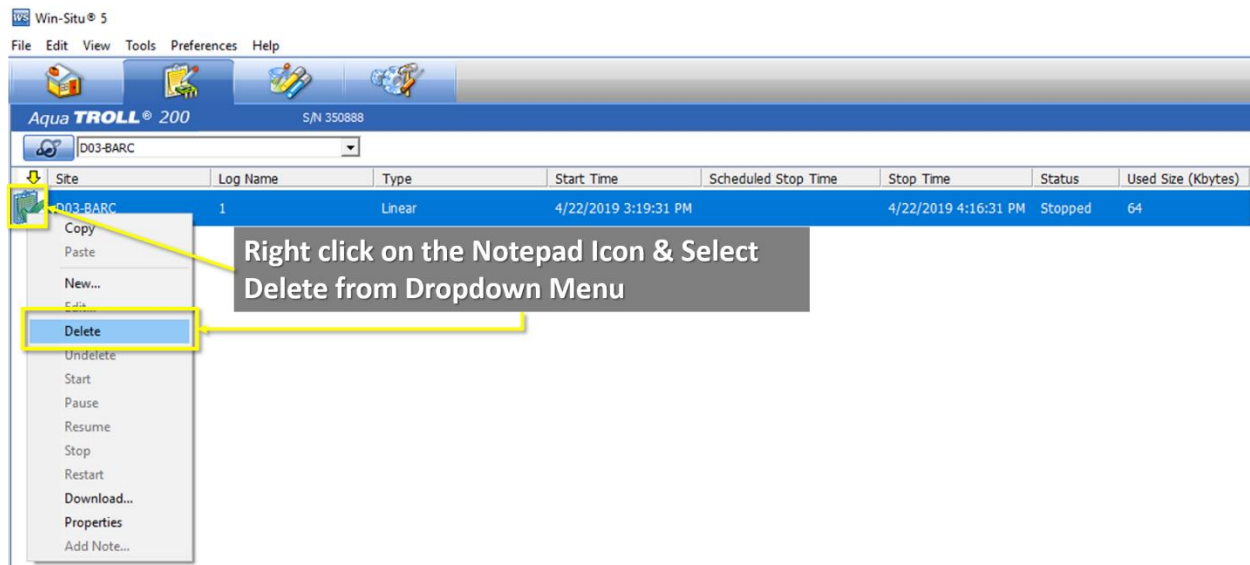

Figure 33. Right Click on the Notepad Icon of the Stopped Log File and Select "Delete"
1. Right click on the notepad icon of the stopped file and select **"Delete"** (Figure 33).